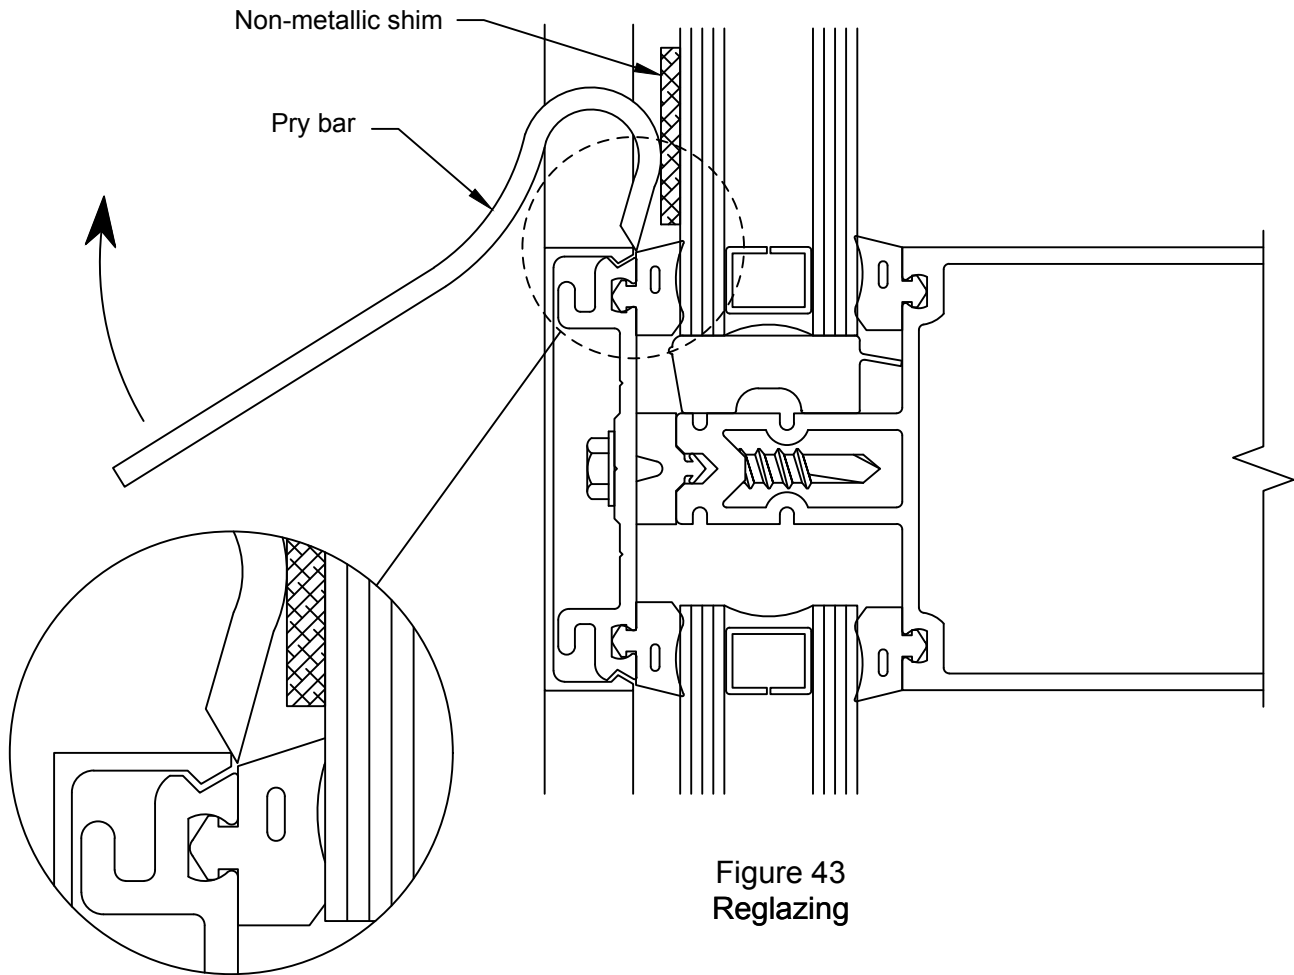

Figure 43
- E.1 Reglazing must be done from the exterior. Carefully remove face covers surrounding the lite of glass to be deglazed. SEE FIGURE 43.